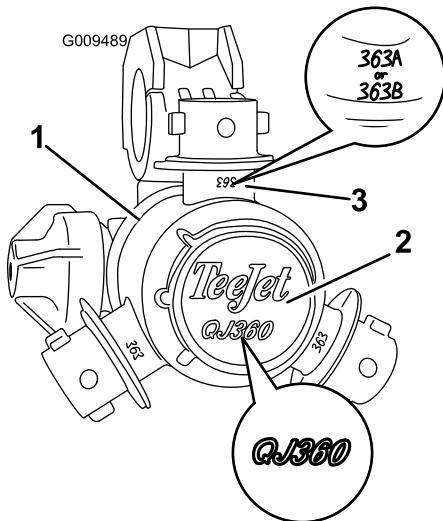

Figure 1
- Models with an “QJ360” revision level will have “QJ360” on the turret plug face and “363A” or “363B” on the turret arms as shown in Figure 1. Viton seals cannot be replaced and the turret will need to be replaced.